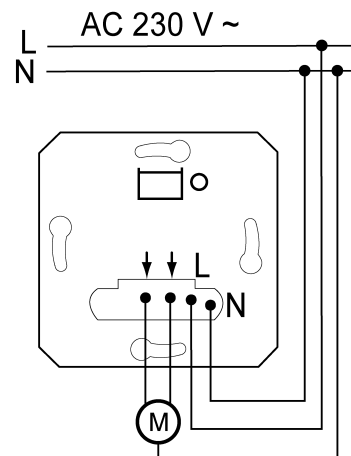
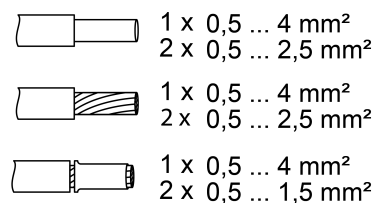

Figure 2: Connection of control
Figure 3: Terminal-specific cable cross-section:
- Connect venetian blind control according to connection diagram (Figure 2). Note clampable cable cross-sections (Figure 3).